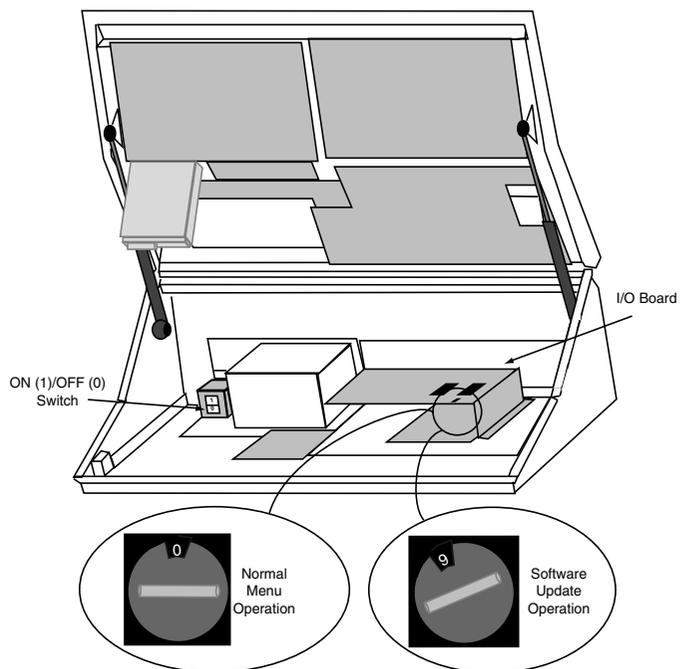

Figure 1. Accessing the Software Installation Mode
1. Open the control panel and locate the I/O board (064919). Refer to Figure 1.
4. On the I/O board, turn the rotary switch to 9 (nine). See Figure 1.